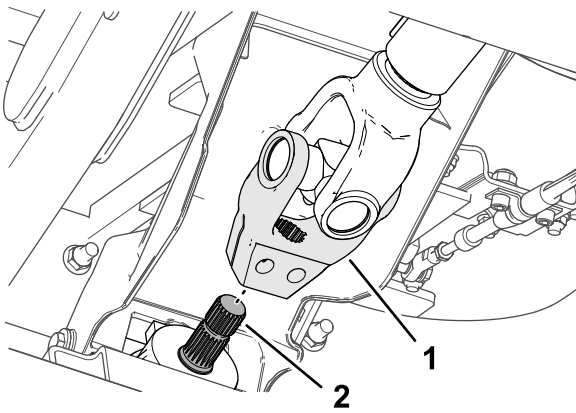

Figure 18
5. Align the splines in the driveshaft yoke onto the splines of the attachment input shaft (Figure 18), and slide the yoke over the shaft.